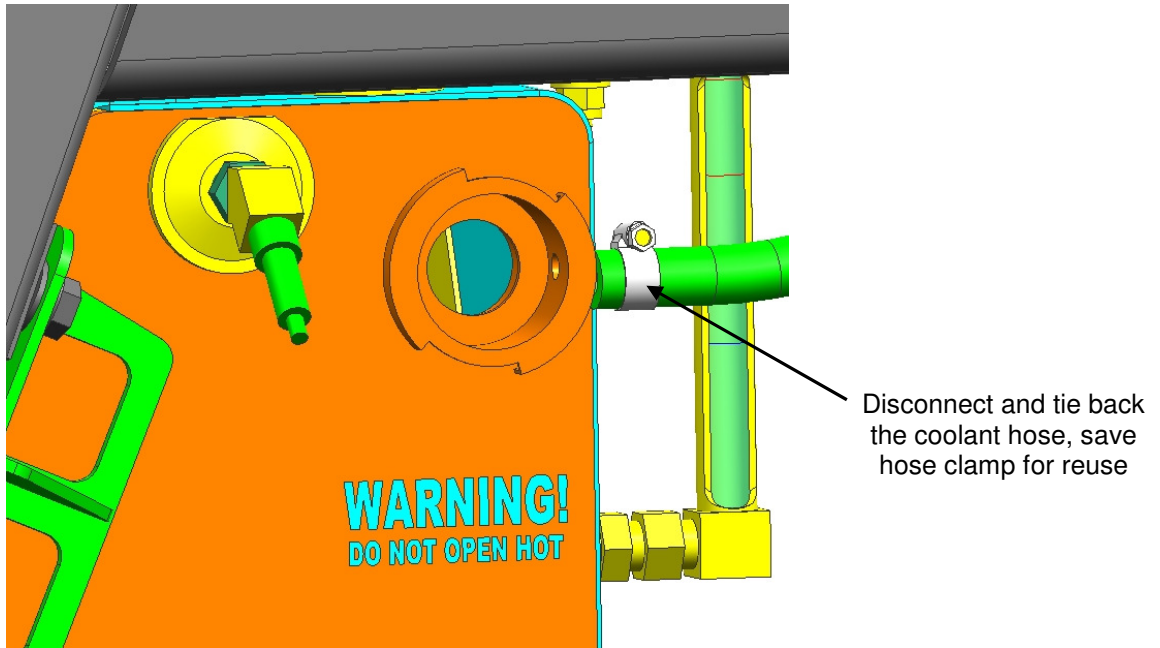

Figure 4: Surge Tank Coolant Hose Removal
8. Disconnect and tie back the existing coolant hose from the surge tank radiator cap neck, set aside hose clamp for reuse later in this document. See Figure 4.